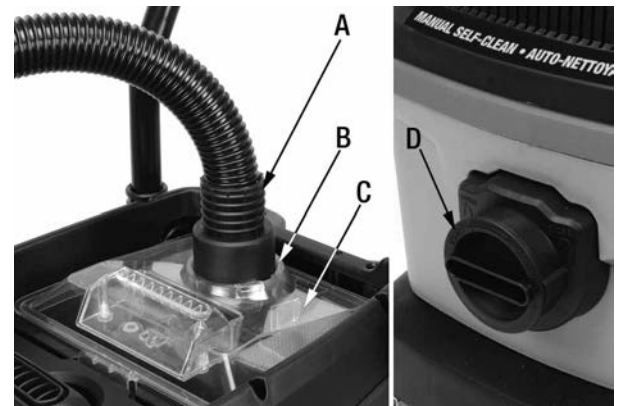

FIGURE 9
- For all 3 stage dry filtration operations, the flexible hose (A) Fig.9 **MUST** be installed to the top inlet (B) located on top of the clear cover (C). Remove inlet cover (D) and reinstall it in the front inlet. Insert the flexible hose (A) into the top inlet (B) and turn it clockwise until it locks.